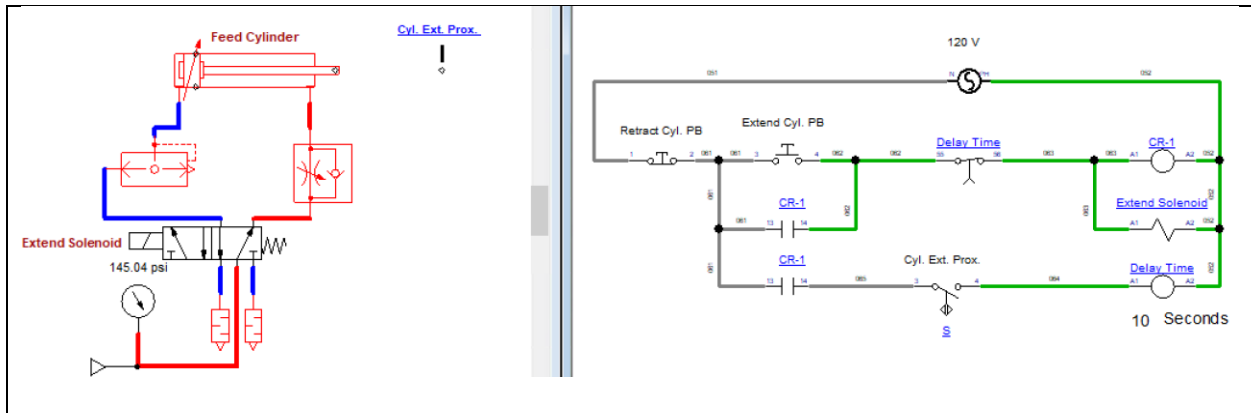

Figure 4. Circuit 2 an electric circuit controlling the Extend Solenoid.
9. Figure 4 shows circuit 2 of this lab. Notice that in this simulation that the electrical circuit is on a separate document (sometimes called a sheet) than the pneumatic circuit. To be specific, the pneumatic circuit is on a standard document, and the electrical circuit is on an Electrotechnical document. The advantage of this setup is that the user can use the clamp on ammeter and the multimeter to test the electrical circuit.